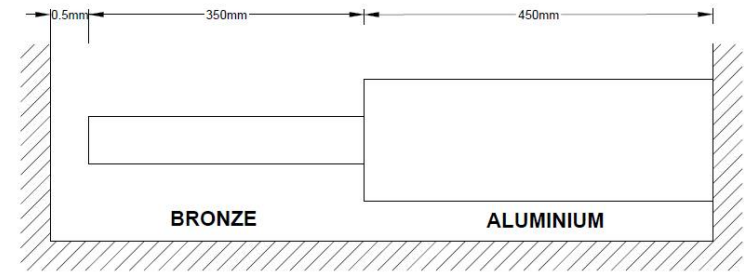

Fig.2
- (b) In the arrangement shown in Fig.2, a gap of 0.5 mm exists at the left end of the bronze bar at a temperature of 20°C . Find the temperature at which the normal stress in the aluminium bar will be 75 N/mm^2 . Find also the corresponding exact length of the aluminium bar.